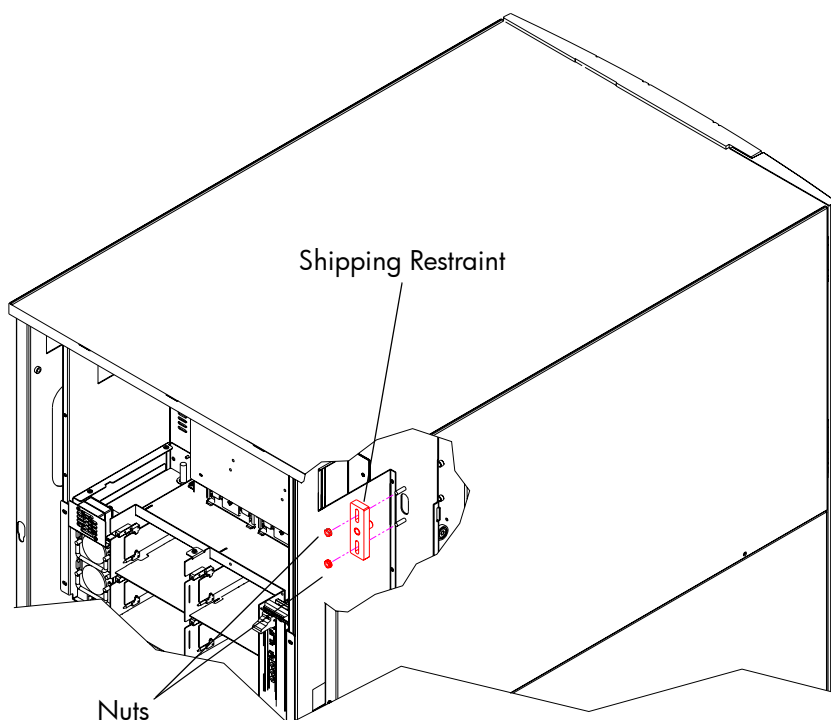

Figure 19: Removing the counterweight shipping restraint
13. From the back of the library use a ratchet with a 7/16-inch socket or a 7/16-inch open-end wrench to remove the two nuts securing the counterweight shipping restraint to the back wall of the library cabinet (see Figure 19).